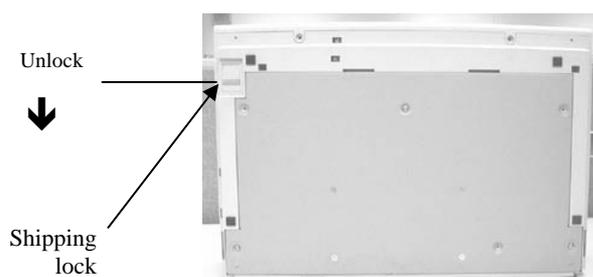

Fig. 2.3 Releasing Shipping lock
- 2) Raise the scanner with care so that the front side of the scanner faces upwards. Move the shipping lock lever for the Carrier from  (Locked) to  (Unlocked). (See Fig.2.3)